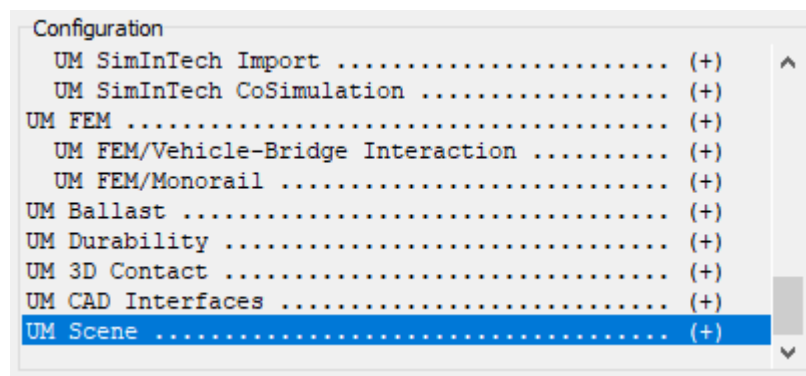

Figure 30.1. UM Scene in the UM configuration
- **Make sure that you have a license for UM Scene in your UM configuration.** Every module in UM software is licensed separately. To load scenes a UM user needs the **UM Scene** module to be available. To check if you have the **UM Scene** module run **UM Simulation** program then from the main menu select the **Help | About** item and make sure that you have '+' sign for **UM Scene**, see Figure 30.1. If you use a trial UM license, your UM configuration already includes **UM Scene**. If you are a registered user you can request for a free trial 3-month license via um@universalmechanism.com.